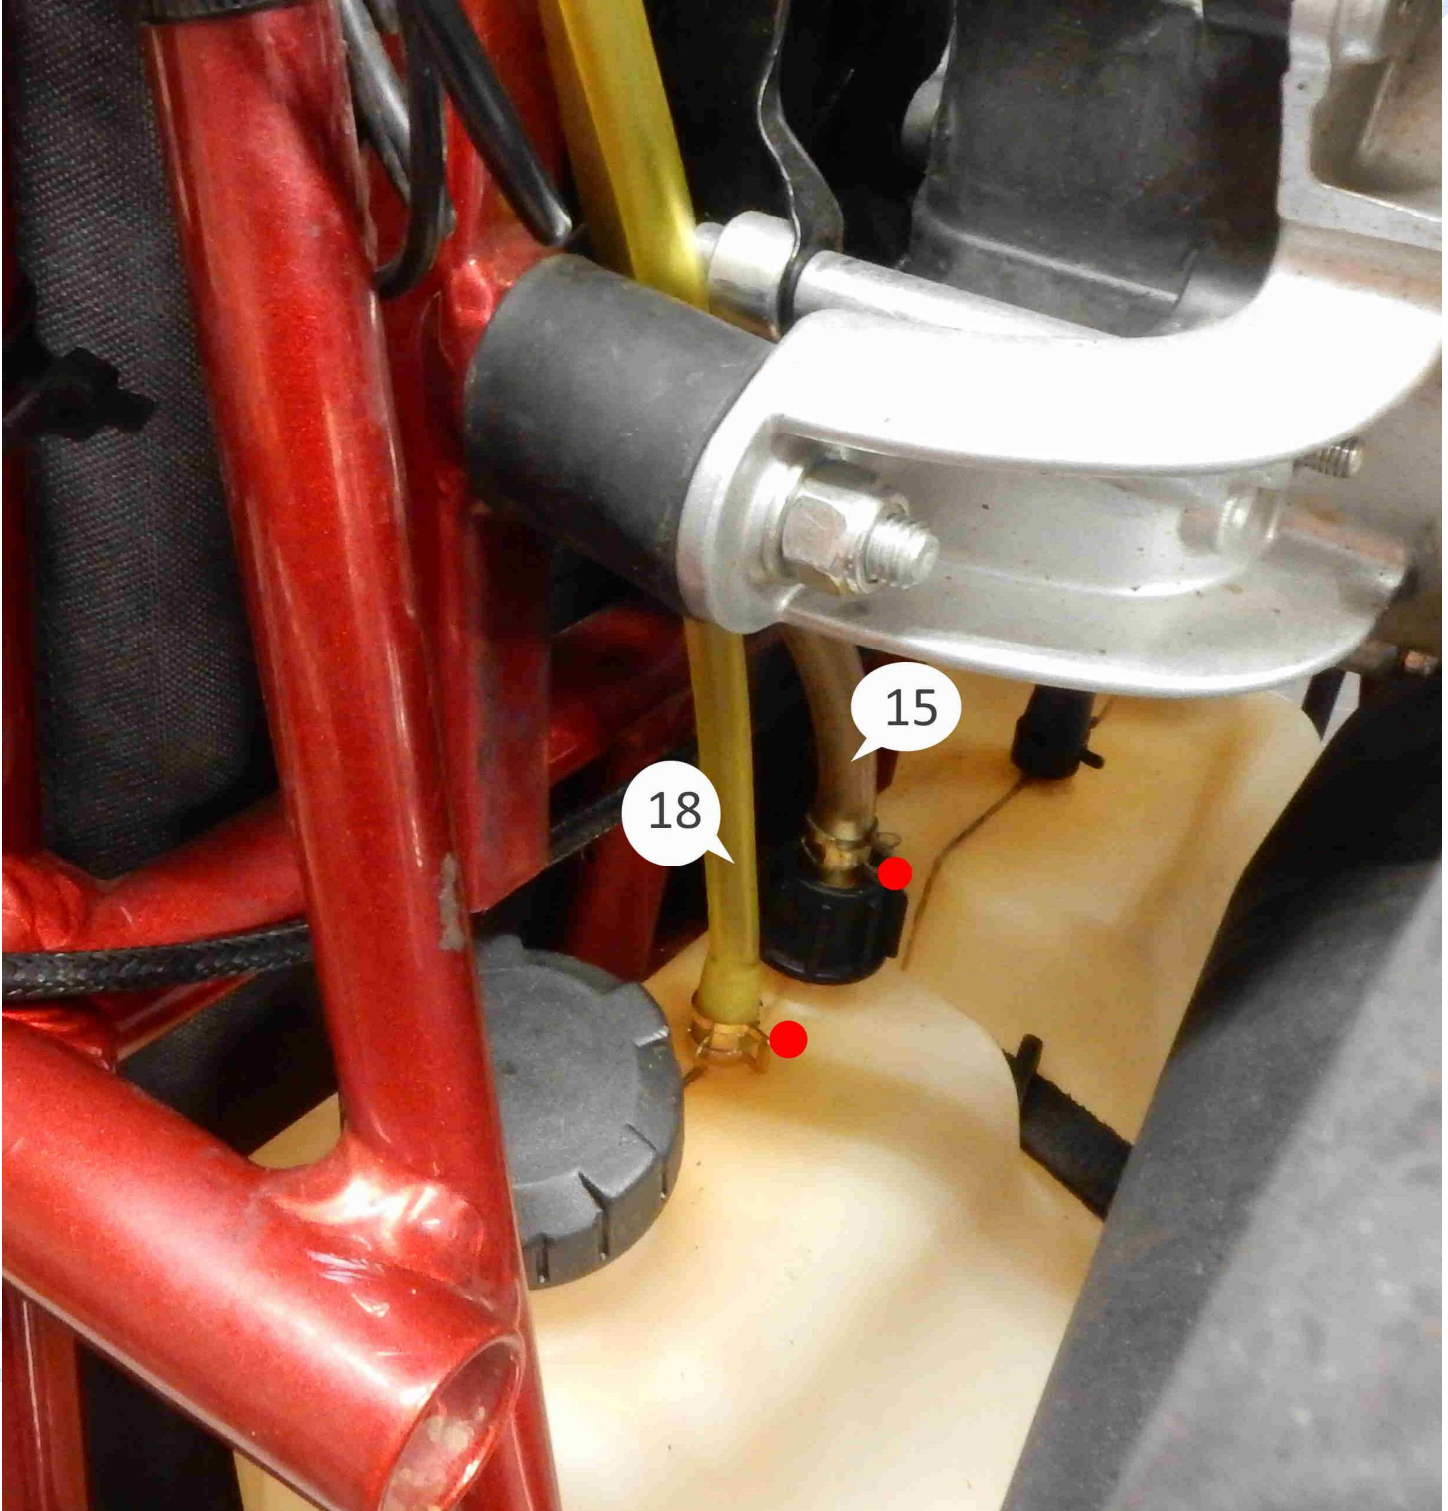

Figure 5 DSCN1328
Parts ID – figure 5
3. Original fuel outlet (attached to the tank clunk) – for fuel overflow line (#15 figure 5) ONLY